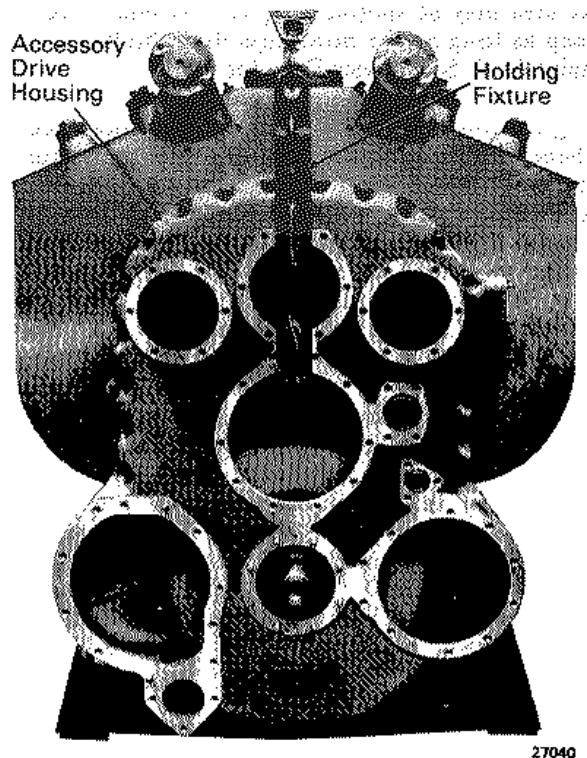

Fig. 6-10 - Accessory Drive Housing Positioning
3. Using holding fixture (File 758) and a suitable lifting device, position housing on crankcase, Fig. 6-10, and secure with one mounting bolt on each side of housing.